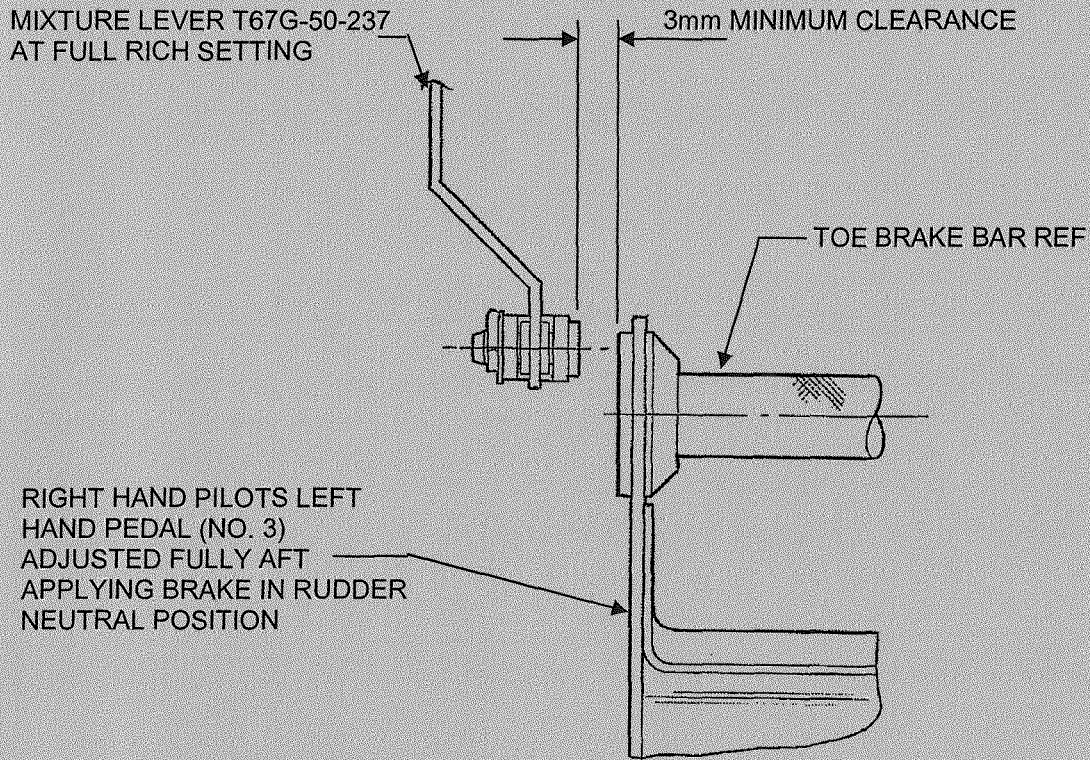

FIGURE 7
20. Ensure, that a minimum clearance of 3mm is achieved between Pedal No 3 and Mixture Lever operating arm, refer Figure 7. Refer paragraph 9 for packing washers.